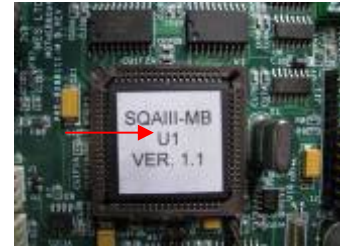

Figure 3: Apply downward pressure to the processor
3. Slightly press the center of the processor with an index finger to re-seat it into the correct position. (Fig. 3).